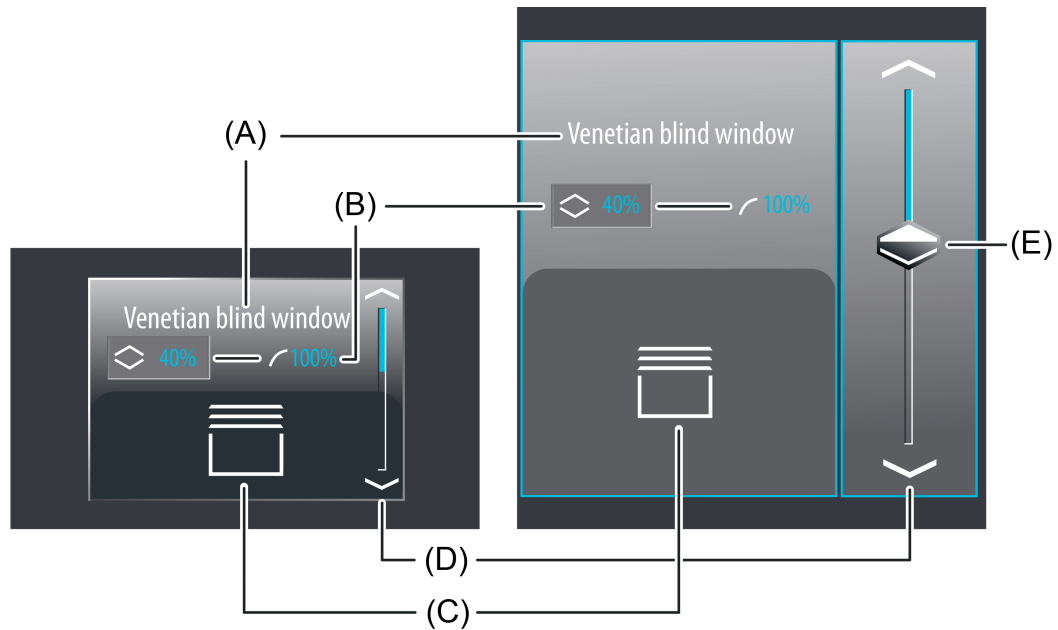

Figure 28: Example of an operating and display element of the function "Venetian blind positioning"
In the selection operation, a slider (E) is also available in addition to the sensor surfaces \wedge / \vee or \langle / \rangle for positioning in the end positions or for value adjustment (figure 28). It is possible to specify positions for slat or blind/shutter heights directly with graphic support using the slider via the status values depending on the selection. For this purpose, the slider can be set by finger pressure or continuously moved. To set the slider, you must touch the slider area at the required position with your finger. The slider then jumps immediately to the required position. At the same time, the device transmits the position value specified thus as a setting to the bus. Alternatively, you can move the slider continuously in the slider area with your finger. During the movement of the slider, the device transmits values according to the specified value transmitter level of 10 % time-controlled and gradually. As a result, the slat or blind/shutter position of the activated system already changes during the slider adjustment, for example, whereby in the ideal case the operator immediately receives a visual feedback on the drive movement and position. The time that must elapse before the device outputs a new position level during an adjustment is preset to 600 ms. Thus, the time of the value adjustment and the value transmitter level affect the control speed of the slider.
The display area contains different display elements (figure 28) that are influenced by parameters. A name can be assigned to each KNX function in the configuration software (A). This text name is centred in the display element for display whereby controllable KNX functions are identified for the user (e.g. "Venetian blind window"). In addition, two status values (B) for blind/shutter height and slat position can be displayed below the name, which display position values in plain text ("0...100 %") either depending on the object values of the position feedbacks of the Venetian blind actuator addressed or alternatively directly depending on the position value presetting of the operating element. After a device reset, the display shows "---%" until feedback object values of the status values are received or position values are specified. Similarly to the status values, a symbol (C) can be displayed in the lower display area. Depending on the selection of the status values the status icon for the slat position or for the blind/shutter height is displayed in the display area.